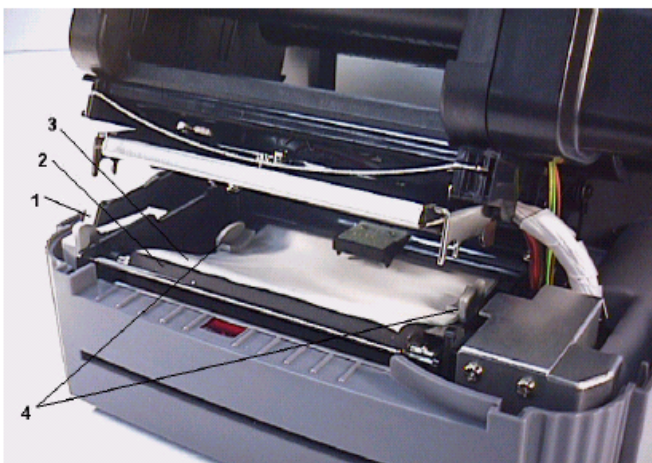

Figure 9. Feed material through adjustable label guide
- Place the label roll into the label roll mount. Feed the label under the carriage and over the platen (*see figure 9*).